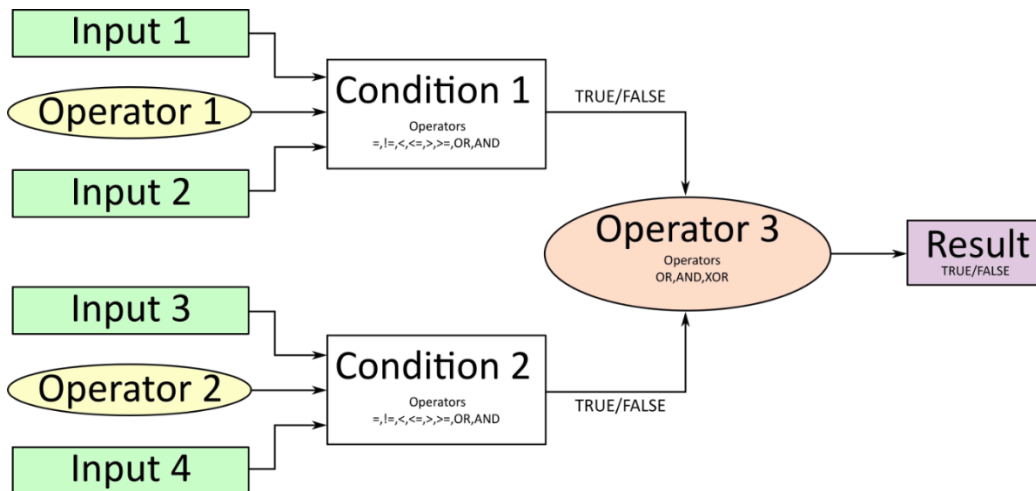

Figure 8: Conditional Block Diagram
This function block is a simple version of the Programmable Logic Function Block and compares up to four different input sources with different logical or relational operators. The result of each block can therefore only be true (1) or false (0). Figure 8 demonstrates the connections between all parameters.